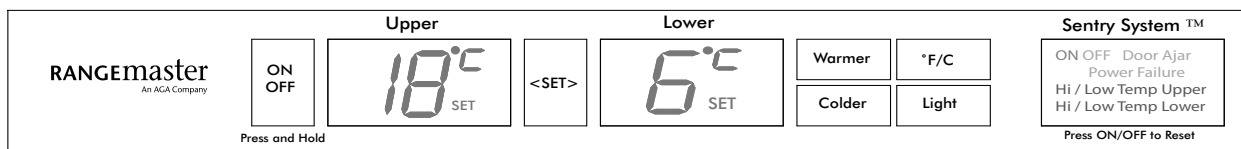

Figure 4
- 1) If Sentry System™ LED is flashing amber (see Figure 4) the appliance is on. Simply press and release "ON/OFF" button to stop the flashing LED.
- 2) If the interior light is working but Sentry System™ display is blank push and hold the "ON/OFF" button for five (5) seconds to start your appliance.